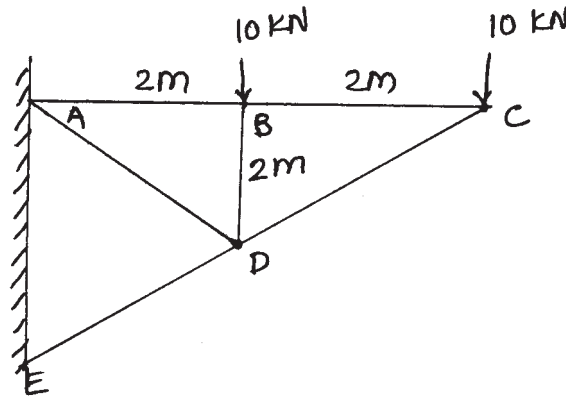

Fig. No. 6
- b) Determine the forces in the members AB, AD and DE of the cantilever frame as shown in Figure No. 6 by method of section.